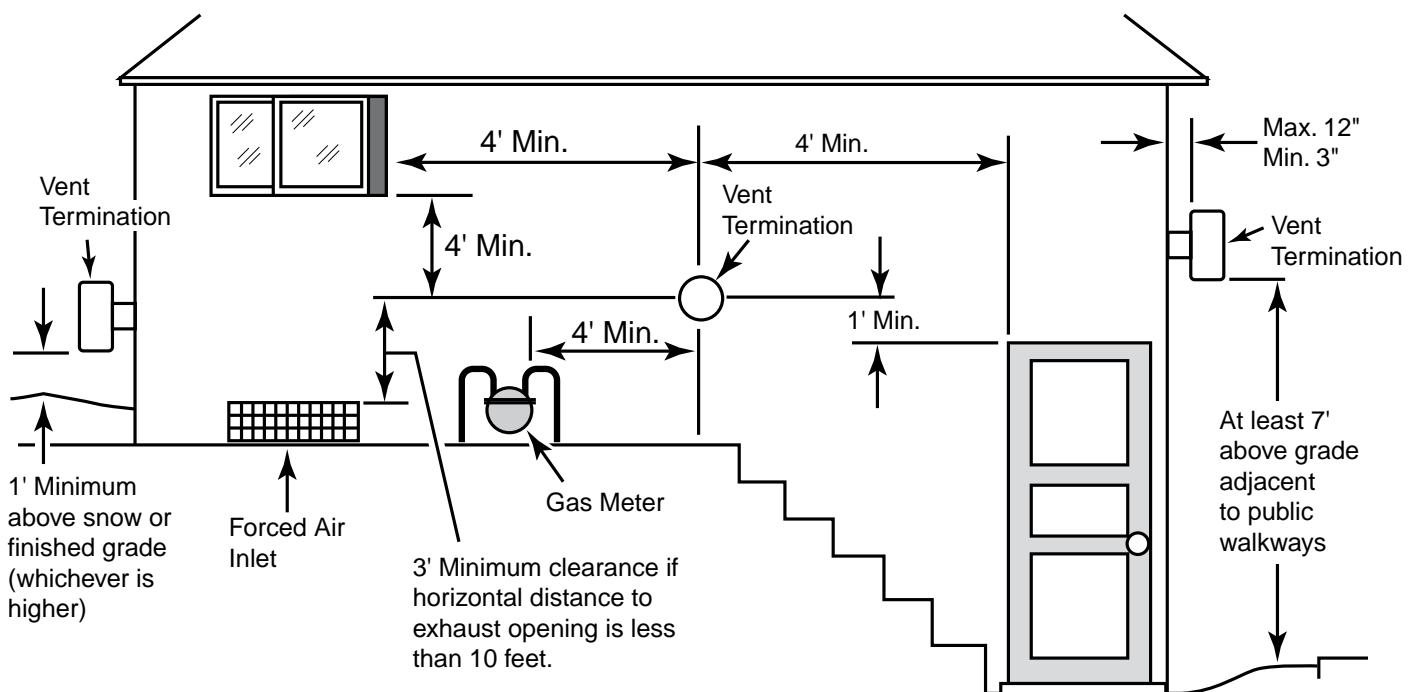
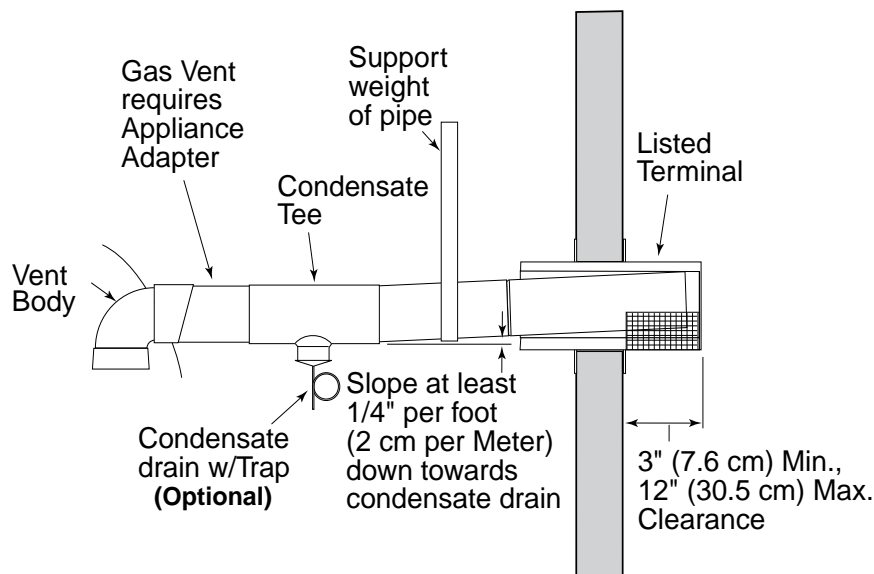
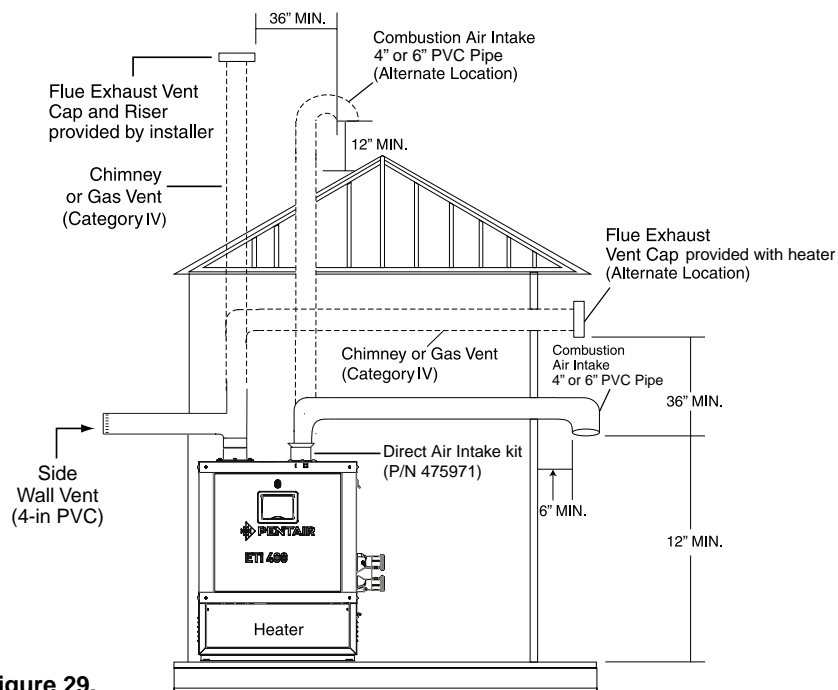

Figure 27.
Figure 28.
Figure 29.
HORIZONTAL OR VERTICAL VENTING (CATEGORY IV) - POSITIVE PRESSURE (See Figure 28, page 35 and Figure 29, page 36)
3. **Vent Termination:** Vertical (See Figure 27 below and Figure 29 on page 36), for height of vent termination above the roof. Use an *Approved* vent terminal specified by local and national codes and your manufacturer's instructions. A roof termination must be vertical. In Canada, the Vent Cap location shall have a minimum clearance of 4 feet (1.2M) horizontally from electric meters, gas meters, regulators, and relief openings.
The terminal must be located (U.S. – See Figure 27 on page 34):
- at least 3" and at most 12" out from the wall (see Figure 29 on page 36), following the vent manufacturer's instructions
The terminal must be located (Canada – See Figure 27 on page 34):
The flue direct vent cap **MUST** be mounted on the exterior of the building. The direct vent cap cannot be installed in a well or below grade. The direct vent cap must be installed at least 1' (0.3 m) above ground level and above normal snow levels, see Figure 27, page 34. The direct vent cap **MUST NOT** be installed with any combustion air inlet directly above a direct vent cap. This vertical spacing would allow the flue products from the direct vent cap to be pulled into the combustion air intake installed above.
It is recommended that the intake vent (see Figure 29 below) be insulated in colder climates.